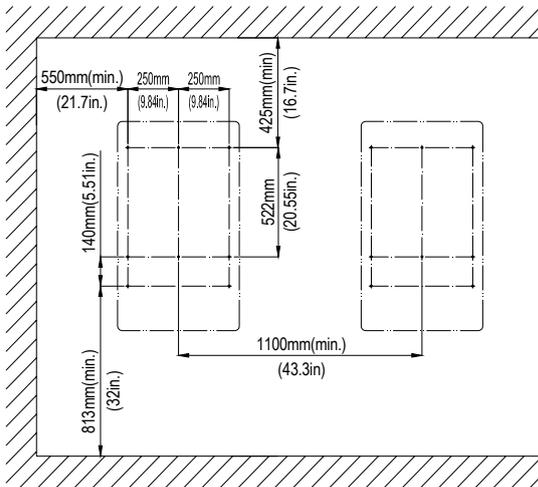

Figure 3-5 Dimensions of holes on the bearing surface
(1) Mark the 8 holes on the bearing surface for mounting the bracket as shown in Figure 3-5;